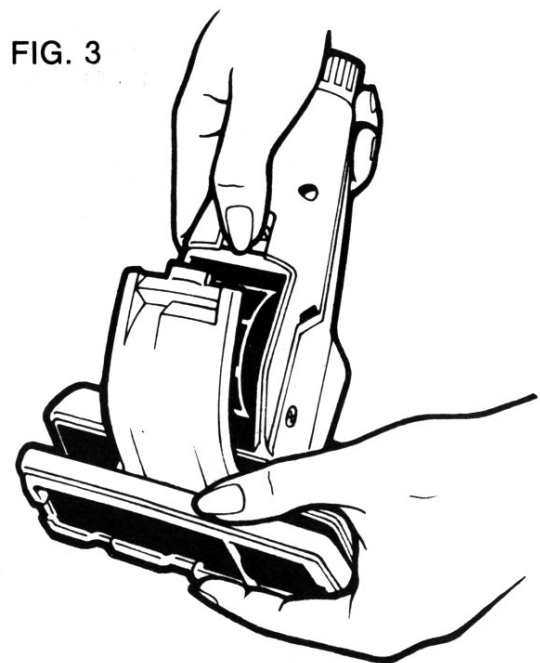

FIG. 3
2. Remove brown base plate by first sliding the base plate latch toward the back of the brush. Next, pull the rear of the plate away from the housing and slide forward to disengage front locking tabs. (See Fig. 3)